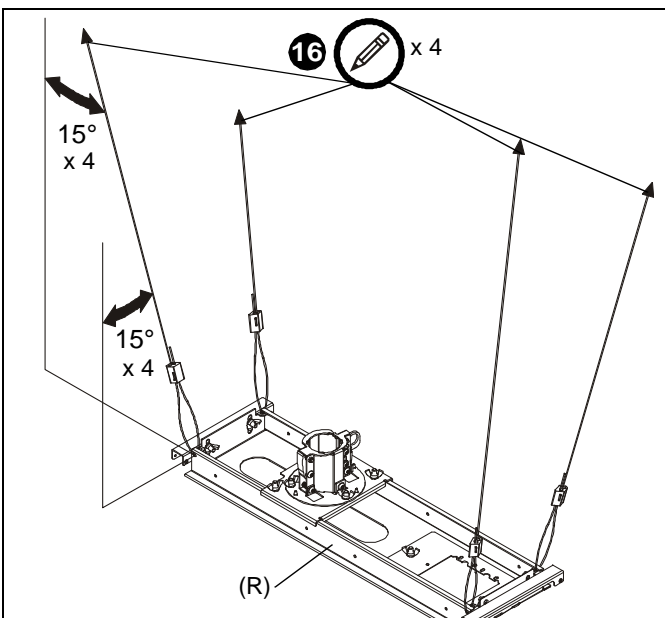

Figure 11
15. Examine ceiling structure (concrete or wood) above ceiling plate assembly (R) to identify four support cable anchor locations. Each location should be approximately 15° outboard of support holes in ceiling plate assembly (R). (See Figure 11)